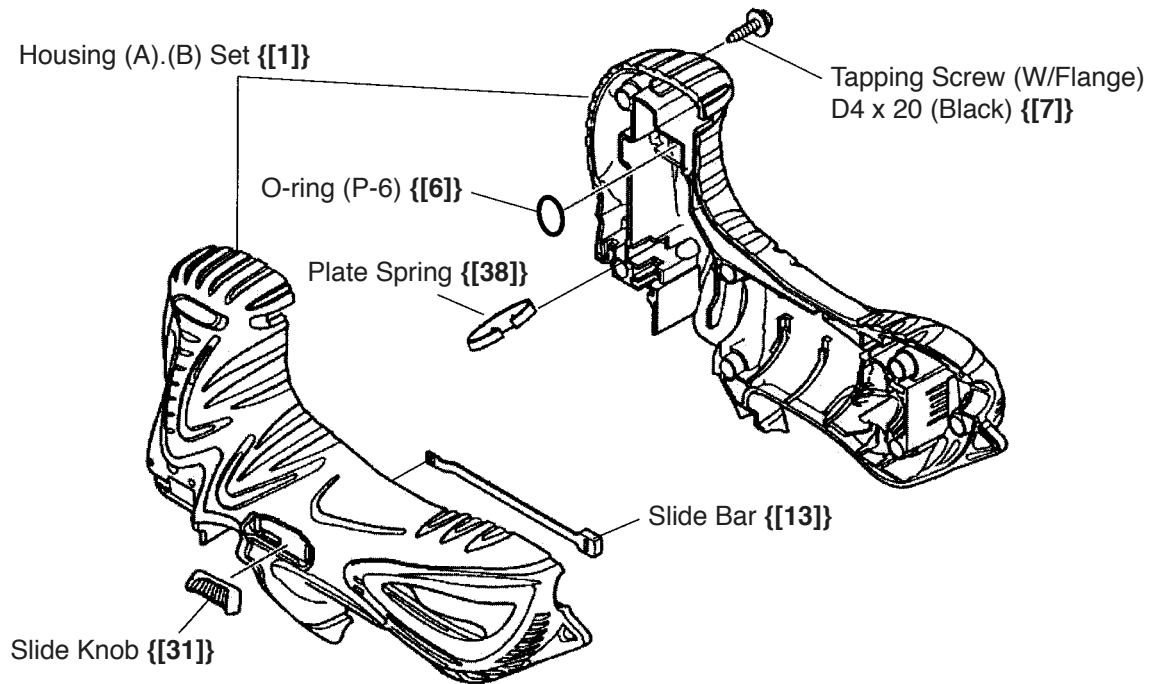
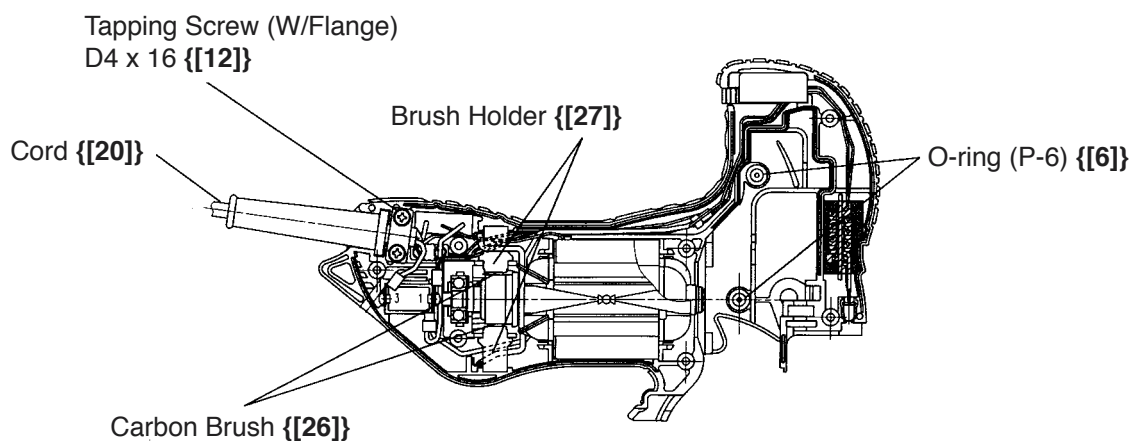

Fig. 7
Fig. 8
(3-2) Disassembly of Housing (A).(B) Set {[1]} for the Model CJ 110MVA (Fig. 7 and Fig. 8)